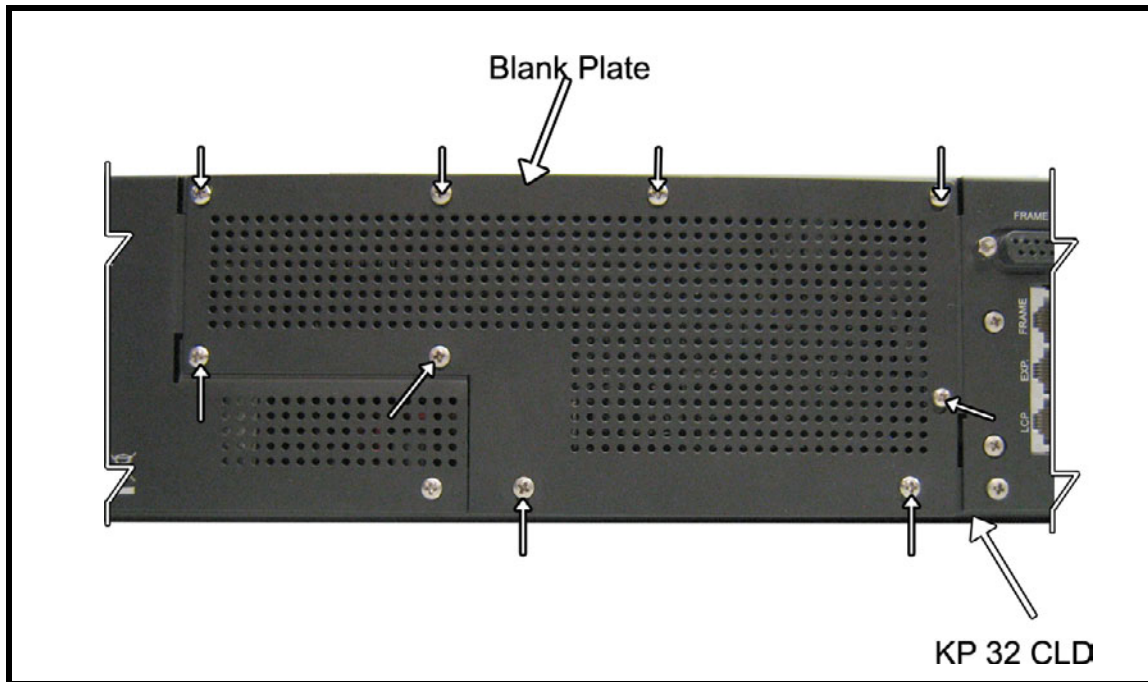

FIGURE 1. Screw Removal Locations
1. Using a Phillips head screw driver, remove the **nine (9) screws** securing the blank plate in place on the rear of unit (see Figure 1 for screw locations).
5. Replace the **screws** in the appropriate holes (see Figure 1).